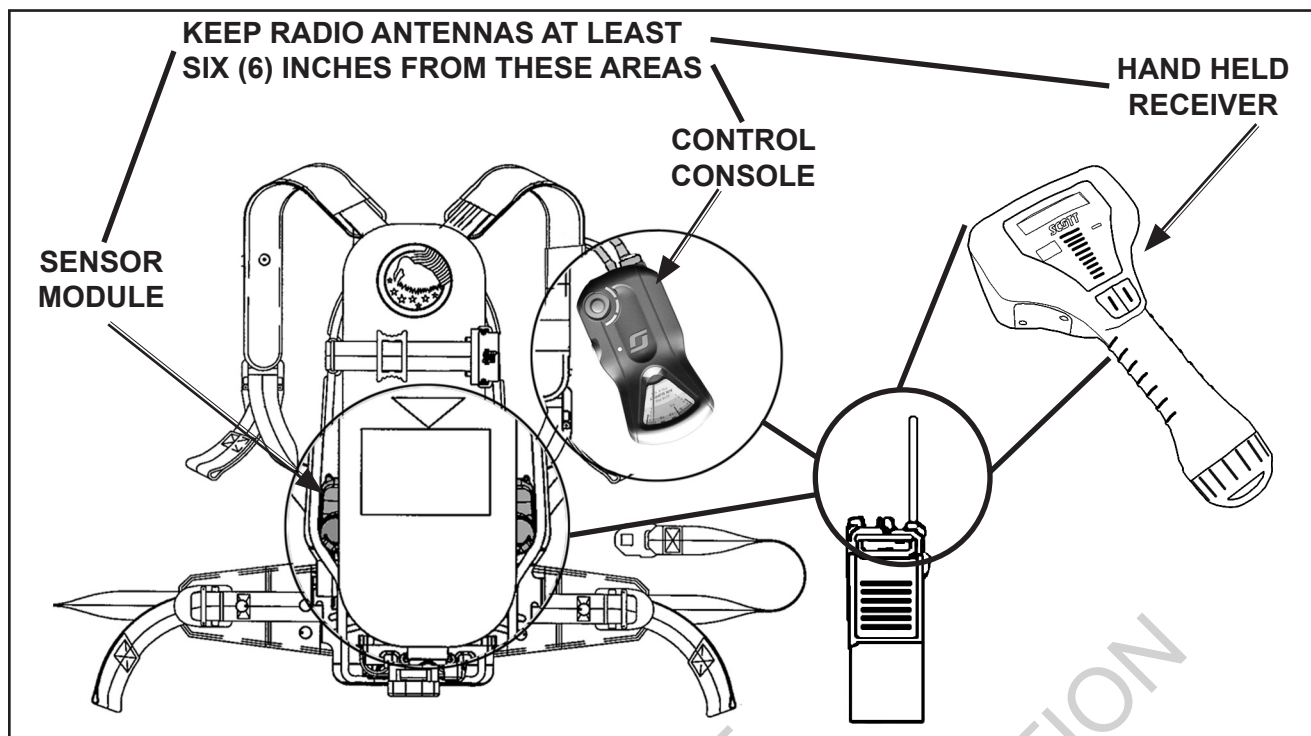

FIGURE 5
When any electronic device is adversely affected by radio waves, Radio Frequency Interference (RFI) is said to have occurred. All electronic devices like the PAK-ALERT distress alarm may be subject to the effects of RFI. Radio transmissions from the antennas of radios including those used by fire fighters, police and other public safety related personnel may produce RFI in the PAK-ALERT distress alarm. RFI may occur while the radio is transmitting if the respirator equipped with the PAK-ALERT distress alarm is in close proximity to a base station or high-powered vehicle mounted radio, or if the antenna of a personal portable hand held radio is touching or within six (6) inches of the Control Console or Sensor Module of the PAK-ALERT distress alarm. See FIGURE 5.
- Keep the antennas of hand held radios at least six (6) inches away from the CONTROL CONSOLE or the SENSOR MODULE. See FIGURE 5.